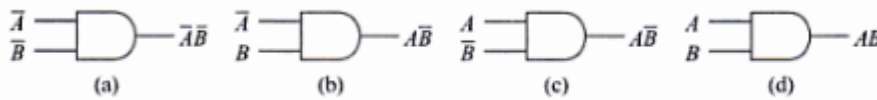

Figure 3.3: ANDing two variables and their complements
- The fundamental products are also called *minterms* (Figure: 3.3 & 3.4).